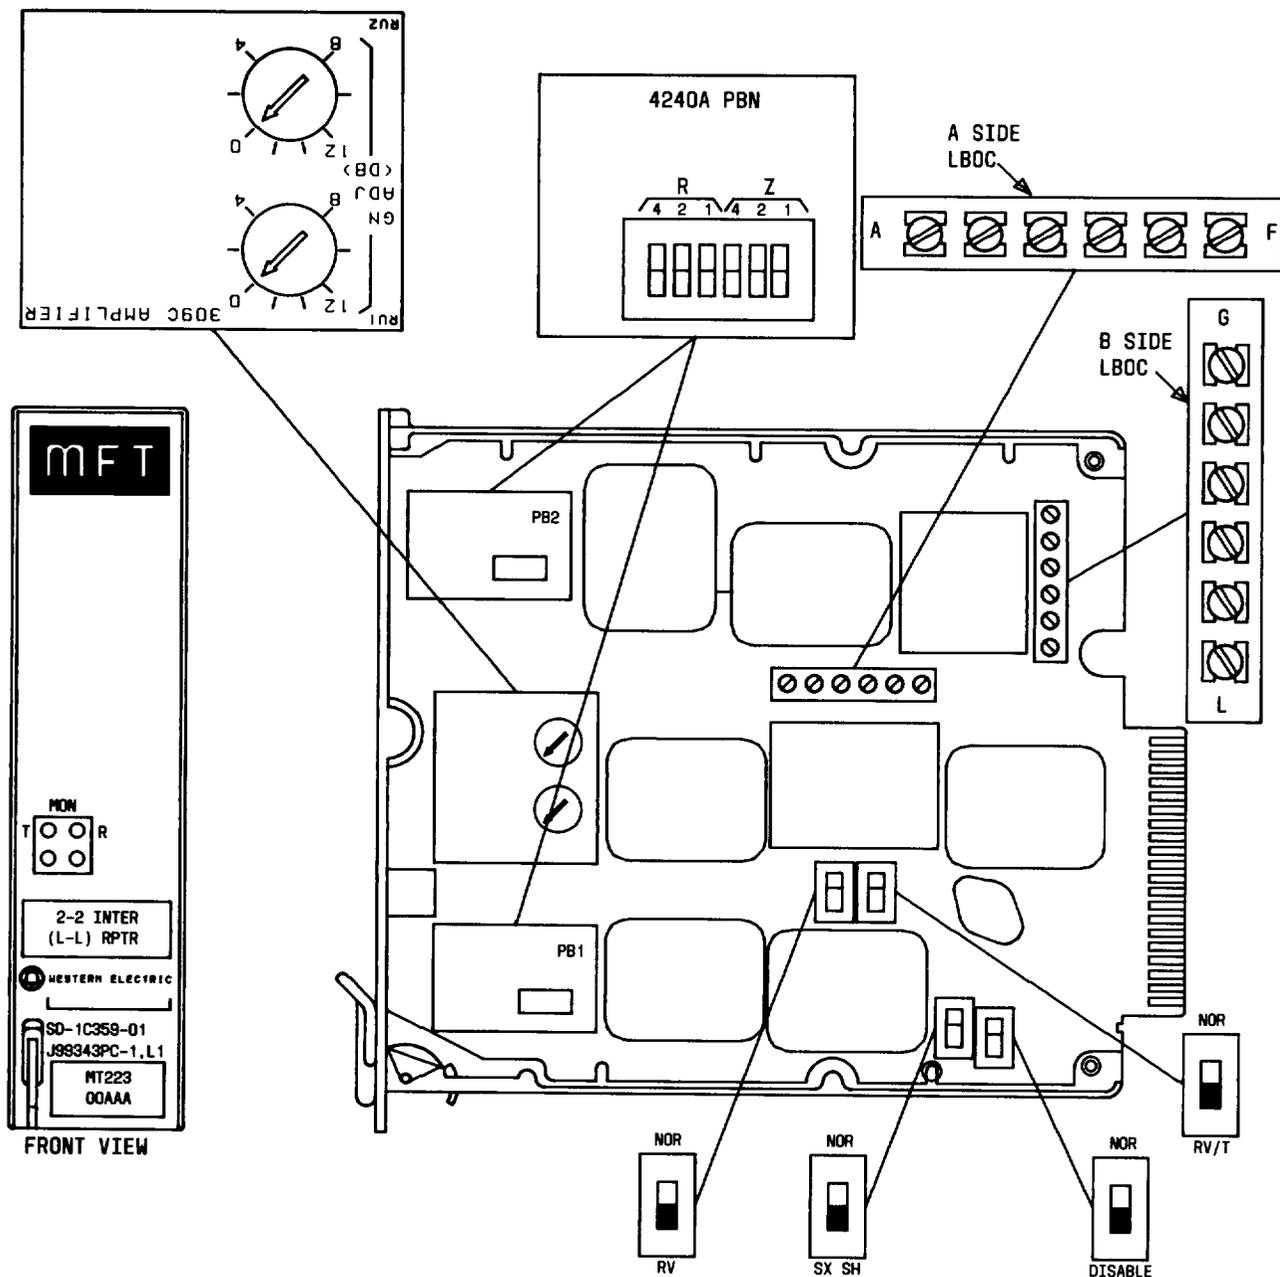
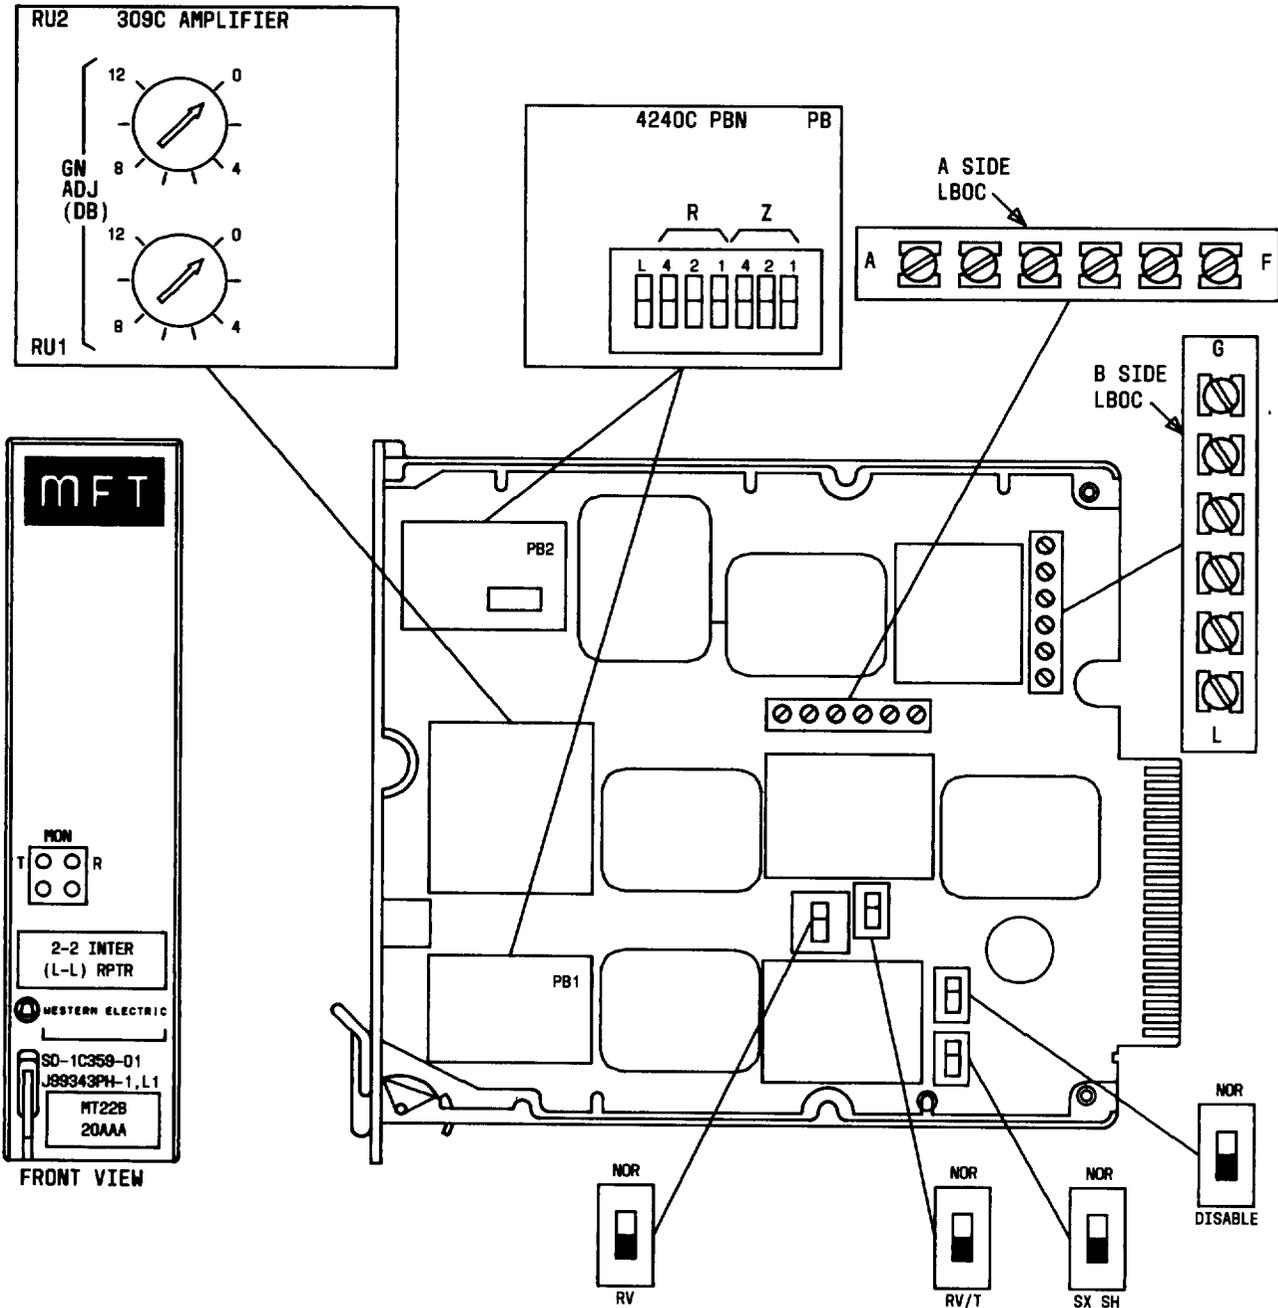
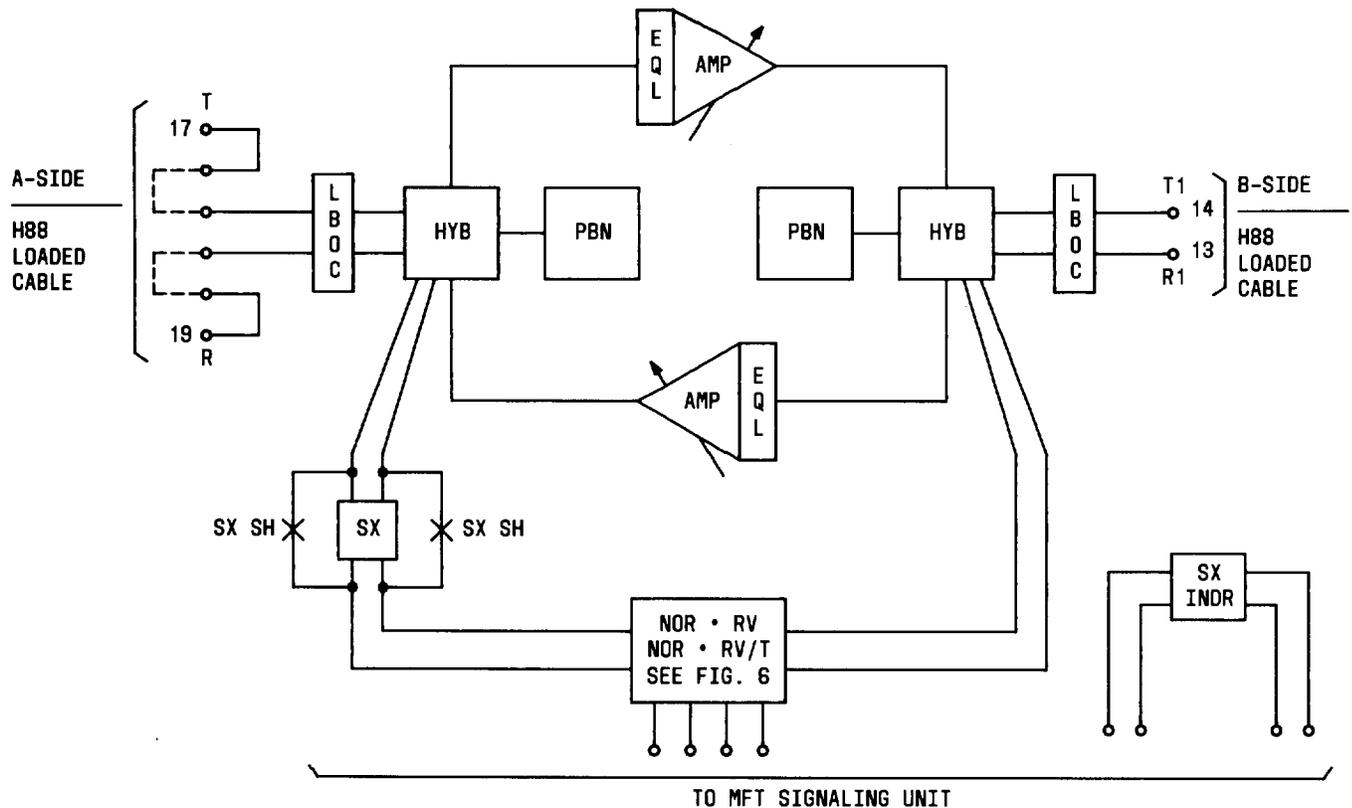

Fig. 1—2-2 Intermediate (L-L) Repeater J99343PC (MD) Component Layout
Fig. 2—2-2 Intermediate (L-L) Repeater J99343PH, L1 (MD) Component Layout
Fig. 3—Block Diagram of the 2-2 Intermediate (L-L) Repeater J99343 PC/PH, L1
2.01 The J99343PC is shown in Fig. 1 and the J99343PH, List 1 is shown in Fig. 2. They provide gain and equalization on 2-wire circuits between loaded facilities. Figure 3 shows a block diagram of these units.
2.08 In the following paragraphs, the rocker-type switches for a particular function are operated when depressed toward the respective designation. The sum of the values of the switches operated is the setting for that function. The unit controls are illustrated in Fig. 1 and 2.